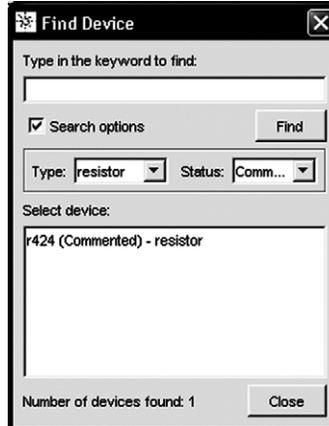

Figure 5. The find device dialog box.
- Use the “find device” command to search for component tests. This is helpful for finding tests that are commented or fail a specific type of test. For example, use “find” to look for all commented resistor tests by selecting “resistor” as the type and “commented” as the status of the component. To show these options, check the “search options” checkbox on the “find device” command dialog box (Figure 5). Note that the accelerator key for the “find” command is “CNTL-F”, the same as in many Microsoft Windows® applications.